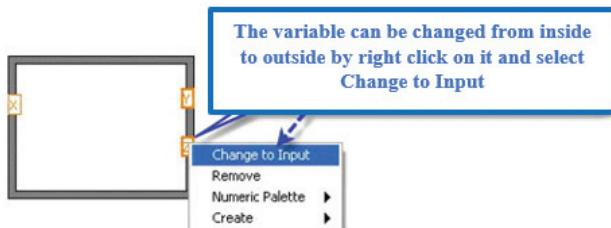

Figure 2.178: Changed Variable from Inside to Outside Or Vice Versa
- The variable can be changed from inside to outside or vice versa, as shown in figure 2.178.